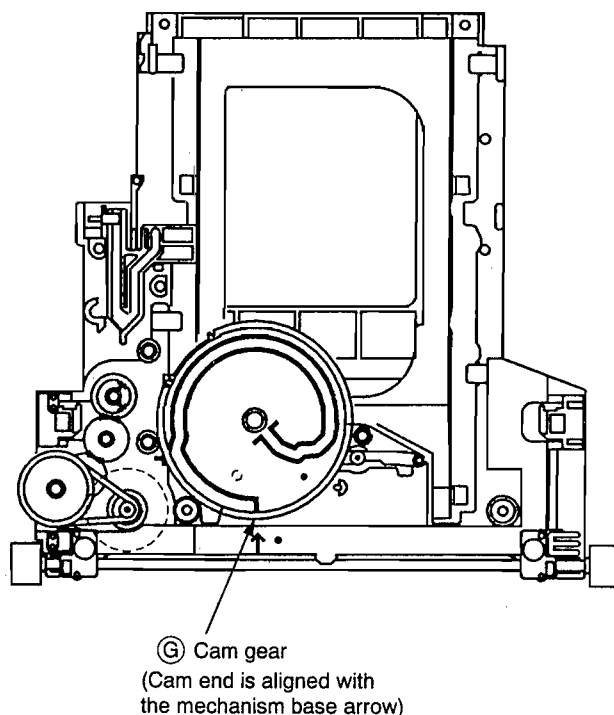

Fig. 1-9 Attach the cam gear
- Insert the cam gear ⑤ upon directing the rib of the cam gear to the arrow mark of the mechanism base as shown in Fig. 1-9.